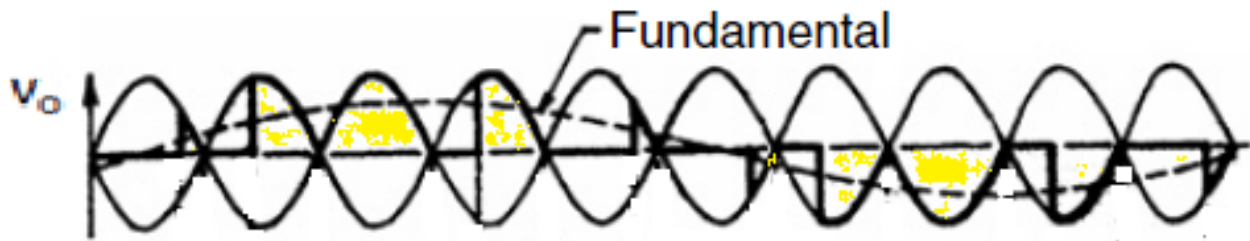

Fig. 3: output voltage waveform of a single-phase/single-phase cycloconverter (Input and output frequency is 50–10Hz) with R load
- To obtain output voltage of frequency one-fifth (i.e,  $1/5$ ) the input frequency; see Fig. 3